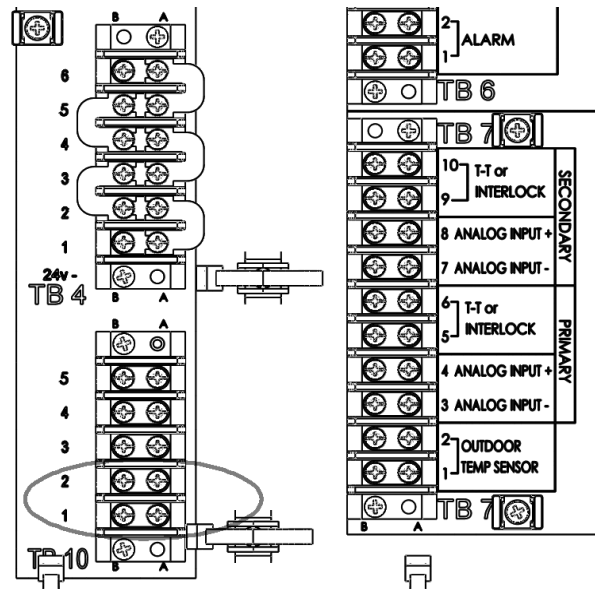

Figure 34. Disconnecting an Unused Touch Screen. Also see Figure 18 on page 36
- Locate terminal block 10 (TB10). See Figure 34. Remove the jumper connecting pins 1 and 2 on TB10. You can also reference Figure 18 on page 36 for connections.